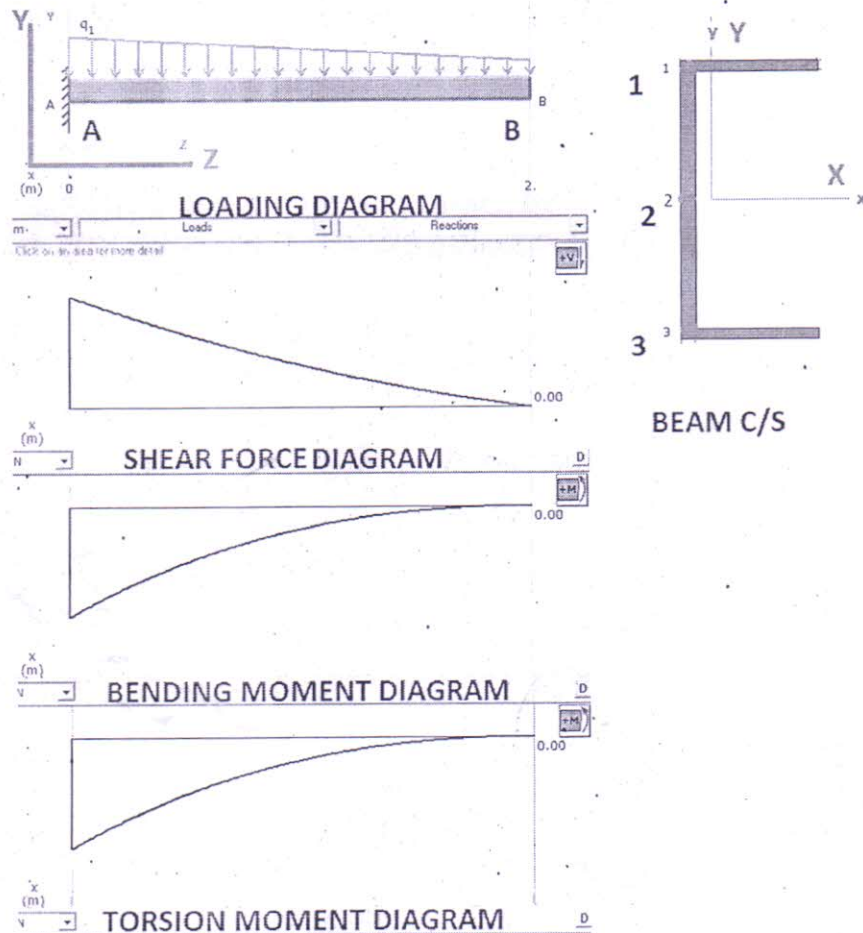

Fig. 2: State of stress problem
Q.4) Indian Standard hot rolled steel section is loaded as a fixed cantilever beam subjected to loading as shown in the fig. 2. Assume a linear elasticity problem. Draw the neat sketch of state of stress at a point for the following locations.